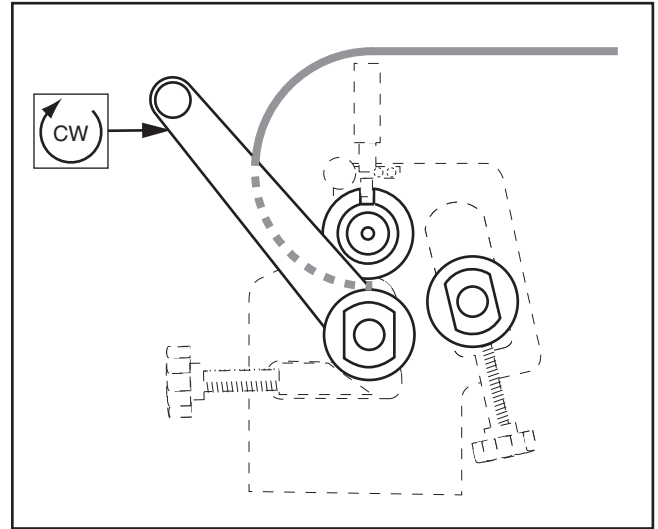

Figure 25. Re-inserting workpiece.
7. Rotate workpiece 180°, insert curved end into slip roll, then feed workpiece through again (see **Figures 25–26**).